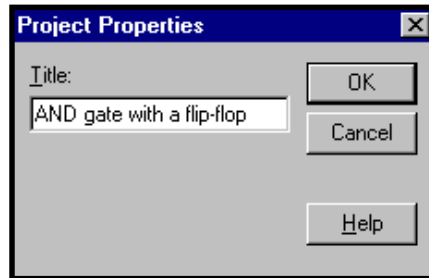

Figure 3-2. Project Properties Dialog Box
1. Double-click on the project notebook icon or project name Untitled that appears at the top of the Sources in Project window. The Project Properties dialog box (Figure 3-2) appears.